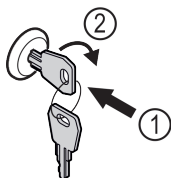

Fig. 171
- ▶ Insert key Fig. 171 (1).
- ▶ Turn key clockwise by 90° Fig. 171 (2).